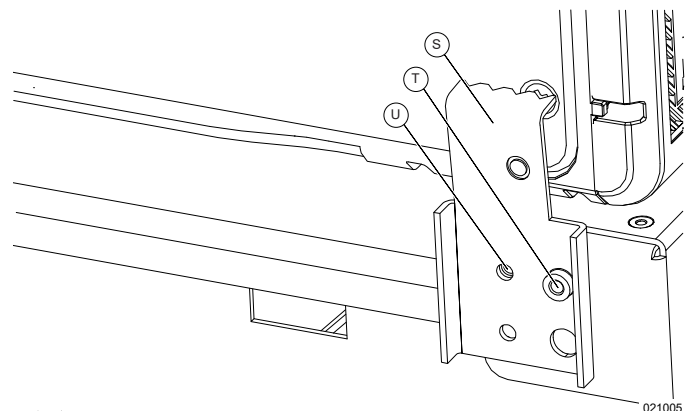

Figure 4-23. Installing Retention Clips (3 of 3)
1. See Figure 4-23. Align holes in retention clip (S) with stud (T) and mounting hole (U).